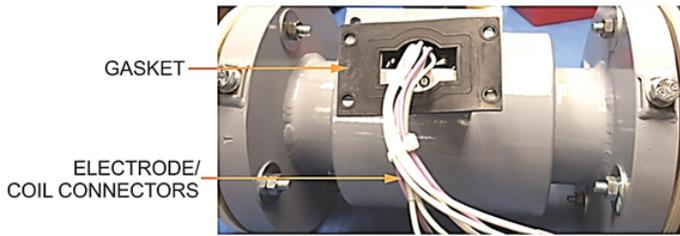

Figure 3: M2000 amplifier housing
4. Disconnect the *electrode* and *coil* connectors in the amplifier housing. See Figure 3.
5. Using the 4 mm or 5/32 in. bit and electric driver, remove the bottom four bolts and washers from the amplifier and slide the detector away from the amplifier making sure the gasket is not lost. See Figure 3.